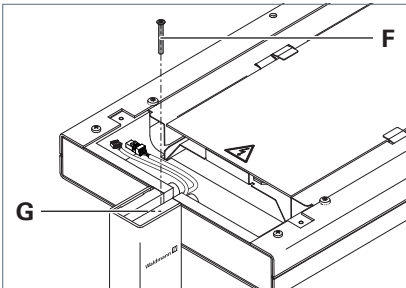

Fig. 3: Fastening the light head.
- Screw the screw **F** into the bore **G** in the support arm and tighten the screw, see Fig. 3.